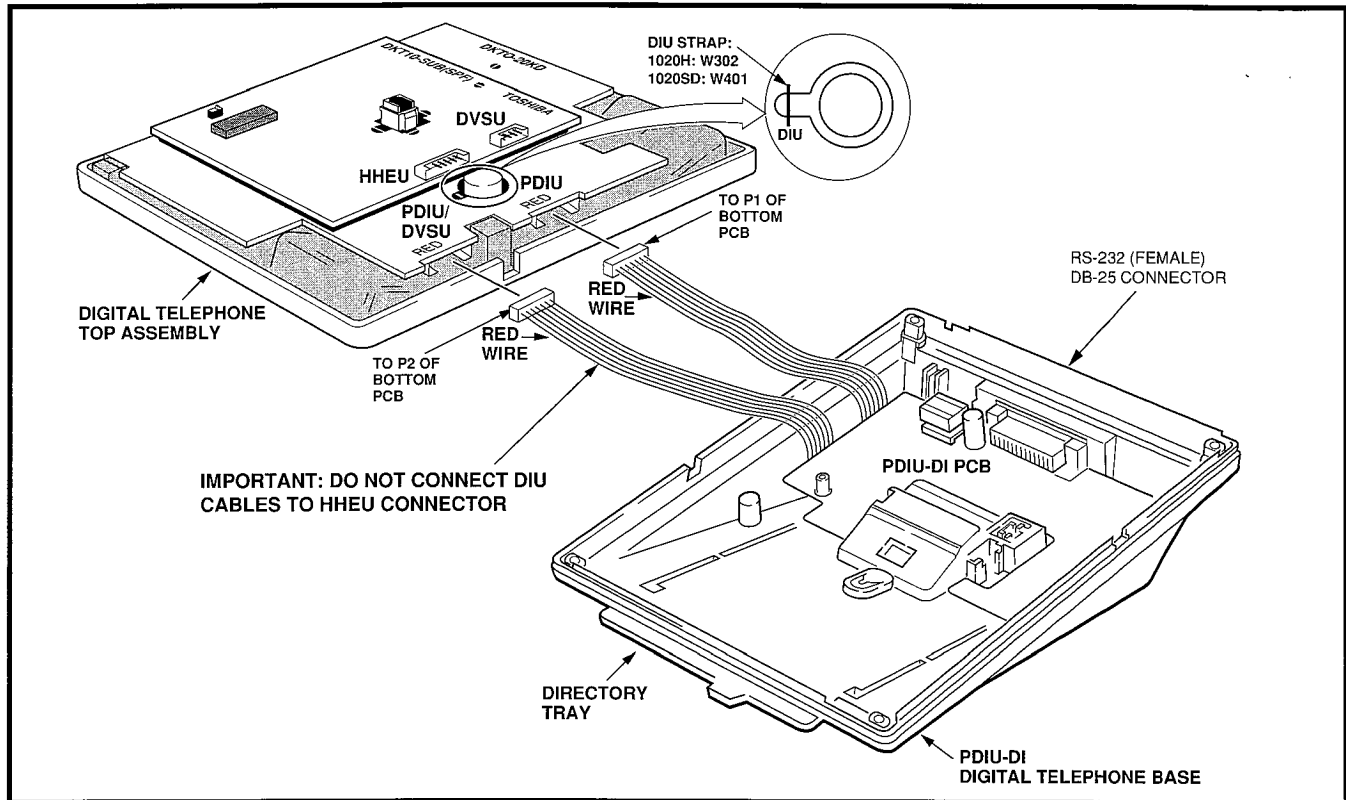

FIGURE 7-9—PDIU-DI/DIGITAL TELEPHONE INSTALLATION
- 2) Refer to Figure 7-9, and insert the two PDIU-DI wire connectors into the digital telephone's bottom PCB, observing the red wire for correct positioning.
- 3) On the digital telephone cut the DIU strap: **W302** on DKT 1020H or **W401** on DKT 1020SD (see Figure 7-9).
- 5) Remove the telephone number directory tray from the original telephone base and install it on the PDIU-DI telephone base (Figure 7-9). Bend tray by squeezing its sides so it bows slightly to remove and reinstall.